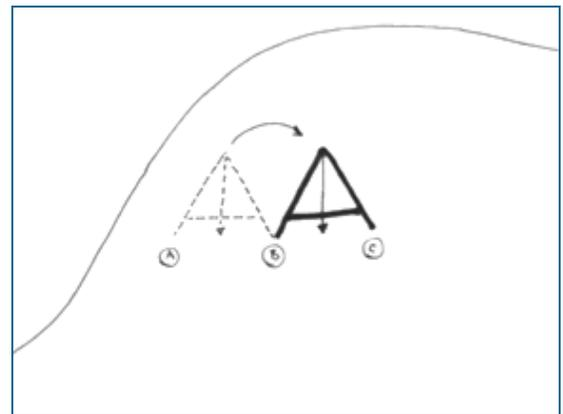
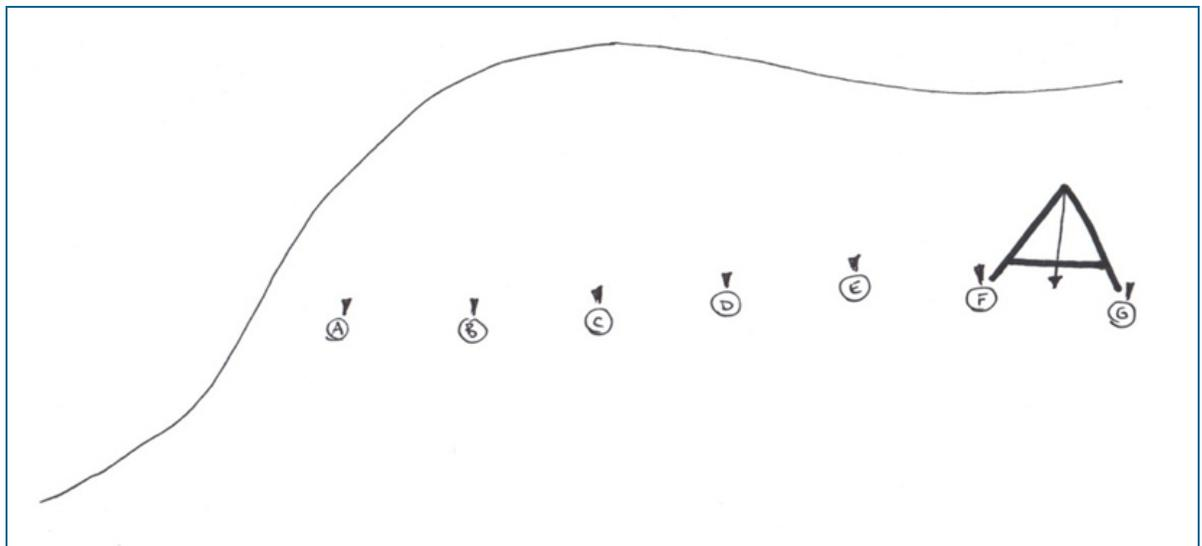

Figure 16.
Figure 17.
- B. Now move the A-frame so that the first leg is where the second leg was. Adjust the second leg of the A-frame until the plumb bob rests over the centerline, just as you did before, and mark where the second leg rests (position "C" in Figure 16). Move along the slope in the same pattern until you've marked a contour as long as you need (Figure 17).